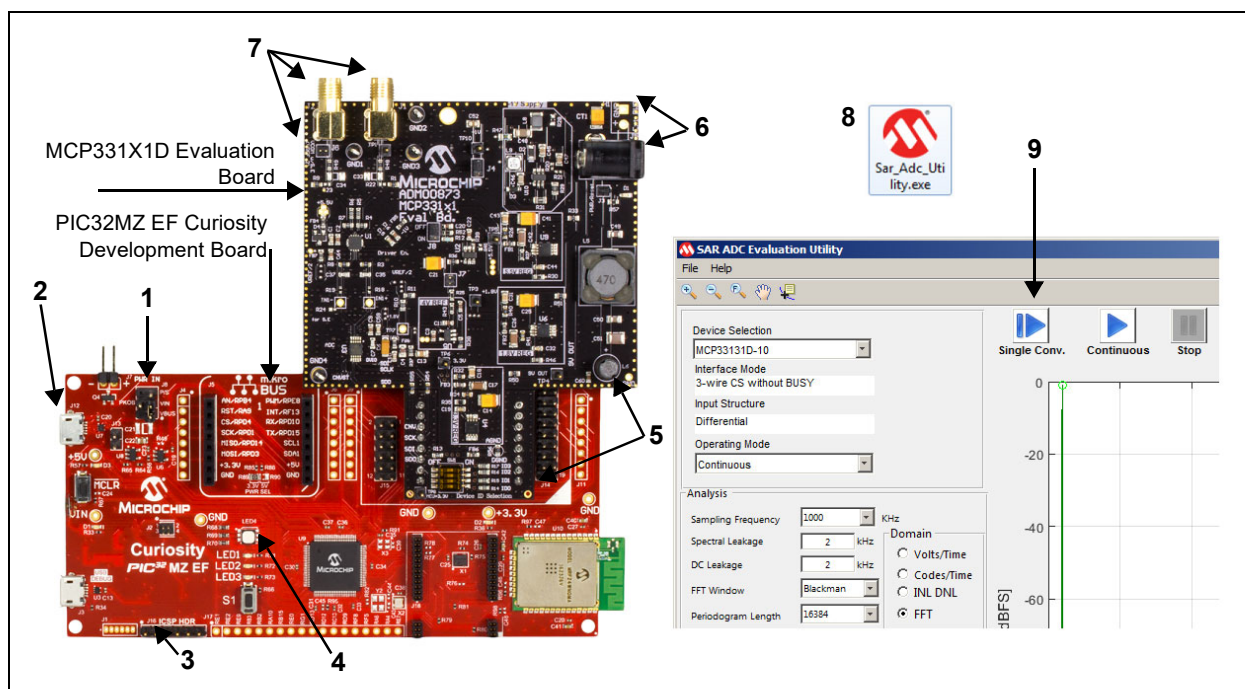

FIGURE 1-1: MCP331X1D 16/14/12-Bit, 1 MspS SAR ADC Evaluation Kit (default).
5. Connect the MCP331X1D Evaluation Board (ADM00873) to the top right mikroBUS™ header (J10), as displayed in Figure 1-1.